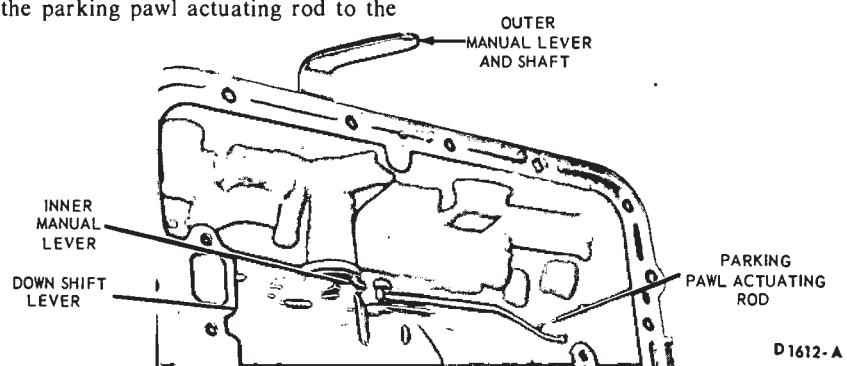

FIG. 31—Downshift and Manual Linkage
3. Slide the downshift lever out from the inside of the case (Fig. 31). Remove the seal from the recess in the manual lever shaft.